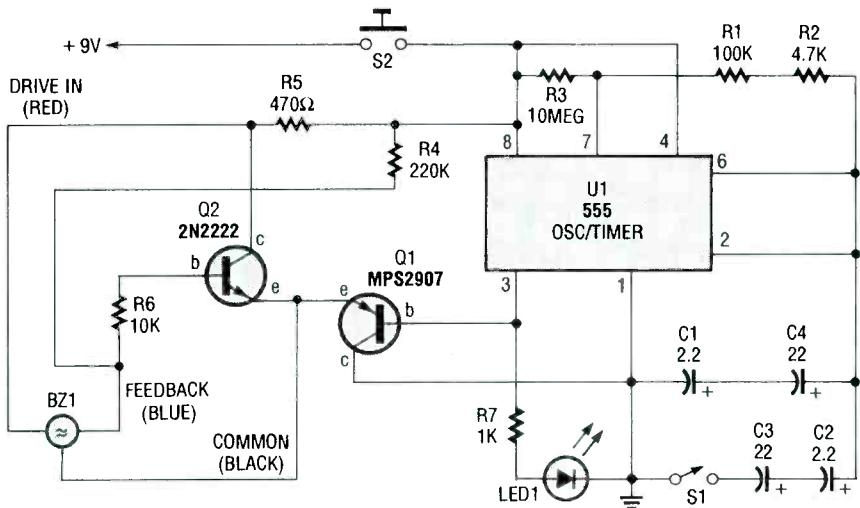

Fig. 1. The Electronic Darkroom Timer is built around a 555 oscillator/timer, a pair of general-purpose transistors, an LED, and a buzzer.
Frequency Conversion. Figure 1 shows the schematic diagram of the HPS Converter circuit. The NE602 chip, U1, contains oscillator and mixer stages. The mixer combines the oscillator signal with the input RF (Radio-Frequency) signal to produce signals whose frequencies are the sum and difference of the input frequencies. For example, an 8.5-MHz oscillator and a 10-MHz incoming signal will give output signals at 18.5 MHz ($10 + 8.5$) and 1.5 MHz ($10 - 8.5$). Re-
Fig. 1. The NE002 integrated-circuit chip amplifies the output signal by ten times. Interconnecting leads should be kept short and layout should appear neat for satisfactory operation.
About the Circuit. Figure 1 shows the schematic diagram of the Electronic Darkroom Timer. The circuit is built around a 555 oscillator/timer, a pair of general-purpose transistors, a buzzer, and an LED. The 555 (U1) is configured as an astable multivibrator (free-running oscillator). The frequency of the oscillator is determined by the values of resistors R1–R3 and capacitors C1–C4.
Figure 1 illustrates the bands used to identify the resistance values of low-wattage resistors. Both a normal (A) and a high-precision resistor (B) are shown. The numerical values corresponding to the various colors you can find on a resistor are given in Table 1.
Fig. 1. Here we show the arrangement of bands on both a regular (A) and a high-precision (B) resistor body. Notice the precision resistor has more digits to specify its value more accurately.